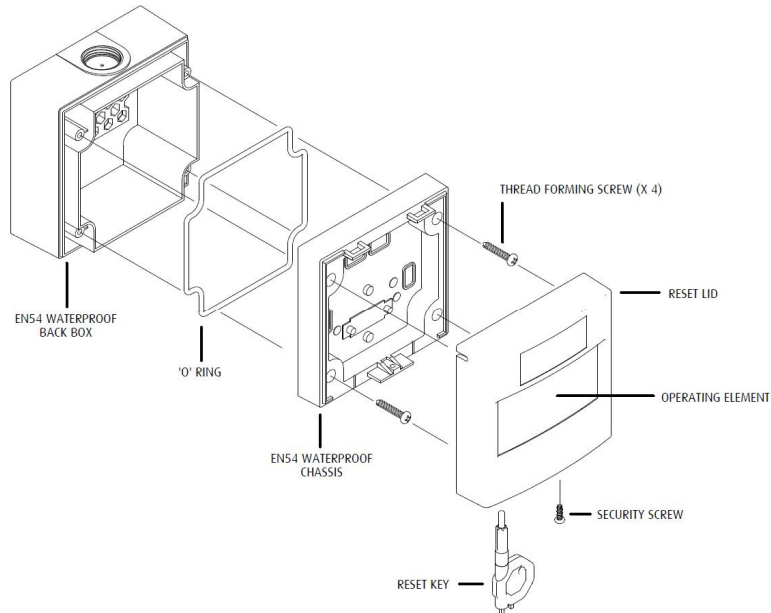

Figure 1
2. Insert the "O" Ring into the Red section of the Call Point as shown in Figure 1 below.